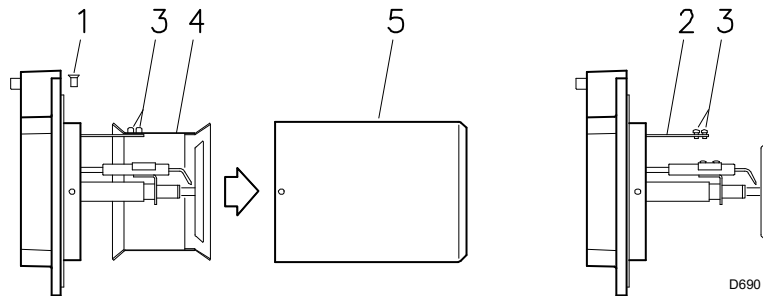

Fig. 9
5.5 Securing the burner to the boiler (Fig. 9)
- Unscrew the screws 1)(Fig. 9) and disassemble the blast tube 5).